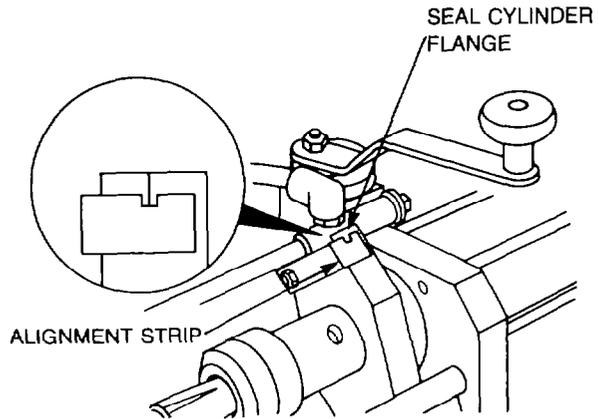

Figure 126 — Alignment of Assembly and Test Stand
- k. Ensure that the assembly to test stand alignment is correct. If the stamped line on the seal cylinder flange is not positioned between the notch in the alignment strip (see Fig. 126), the combination of cam, link and pot adapter is incorrect. Install the correct cam, link and pot adapter.